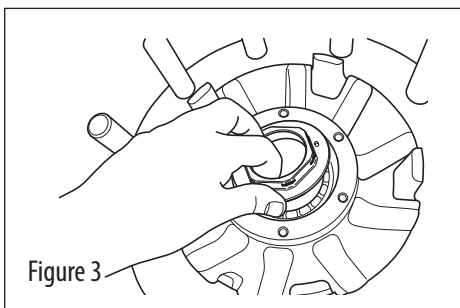

Figure 3
3. Position the spindle nut and washer against the outer bearing (see figure 3).